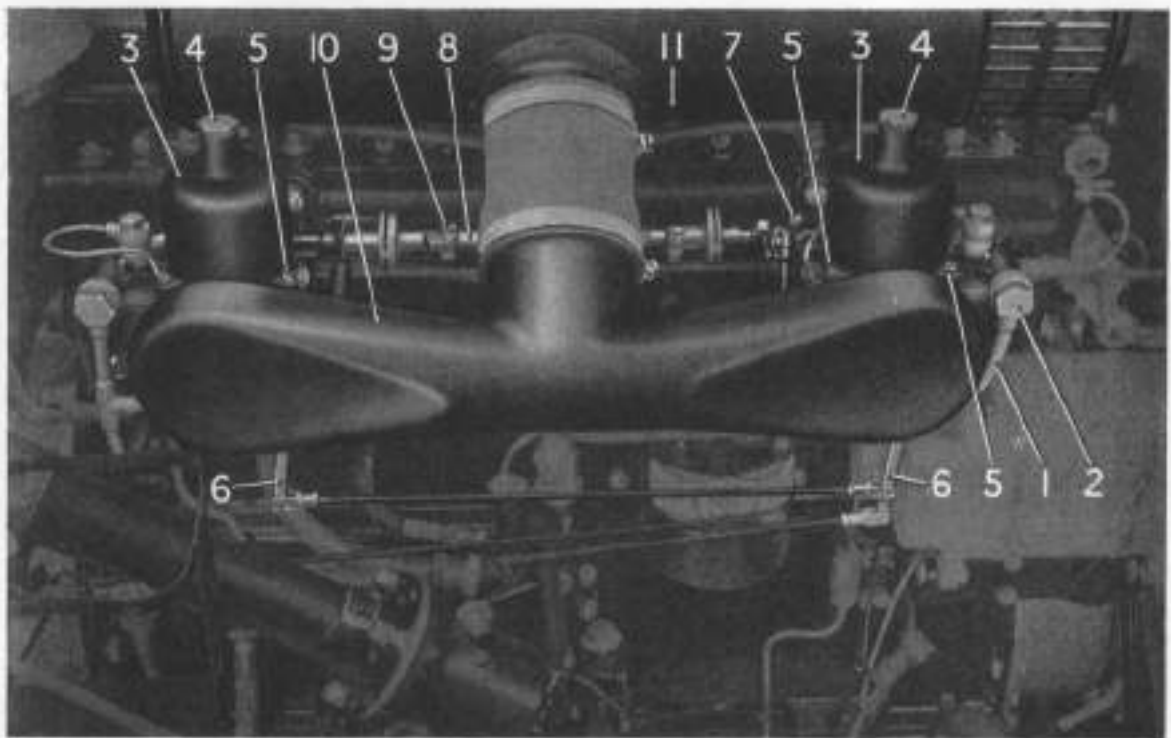
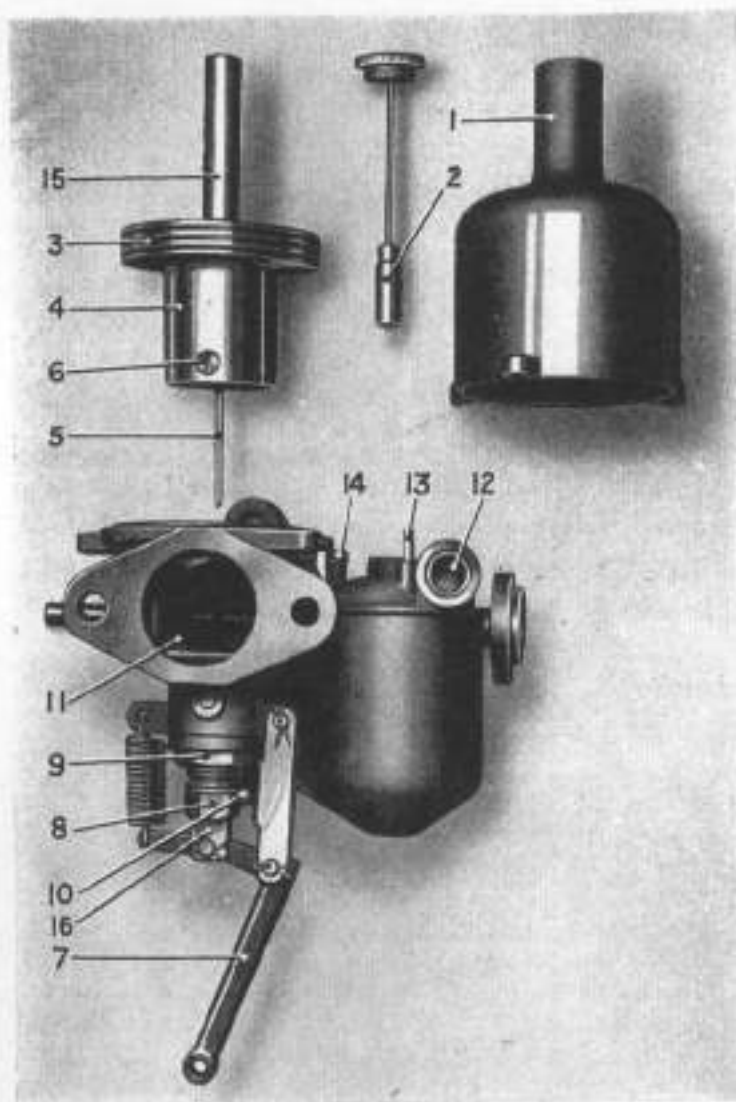

Fig. 13. CARBURETTERS IN POSITION ON ENGINE
Fig. 14.—CARBURETTER—EXPLODED VIEW.
In addition, a small gauze strainer, shown at (12, Fig. 14), is arranged on each carburetter. These should be removed and cleaned every 20,000 miles, as directed on page 33.
Removal is effected by unscrewing the two union nuts (2, Fig. 13).
Two carburetters of the S.U. controllable jet type are fitted as shown in Figs. 13 and 14, one being shown in section to illustrate the principal parts.
The automatic air valve is of the conventional S.U. pattern, and includes a hydraulic suction piston damper to delay the rise of the air valve piston during acceleration and when starting the engine from cold. The damper consists of a small cylindrical brass plunger (2, Fig. 14), attached by a thin steel rod to the oil cap nut (4, Fig. 13). Inside the plunger is a one-way ball valve which seats in an upward direction. The plunger is a free fit in the hollow guide rod of the automatic air valve piston, the chamber being filled with a thin oil. The action of the device is as follows:—
Every month, as directed on page 30, the oil reservoir cap nut (4) (Fig. 13), should be unscrewed and the plunger withdrawn, *great care being taken to avoid damage to the plunger rod by bending*; the reservoir should be topped up, if required, with the recommended oil, so as to maintain the level of the oil to the top of the guide rod only. The
If it is suspected that the automatic air valve is not working correctly, the air intake (10, Fig. 13), should be removed, and a check made by lifting the piston with the fingers, when it should be noted that the piston falls quite freely on to its seat when released.
If any sticking or sluggishness is apparent, it will be necessary to dismantle the air valve assembly; first remove the hydraulic piston damper, next remove the three screws (5, Fig. 13), and lift off the cylinder (3). The piston valve can be then lifted out, *the utmost*
care being taken not to bend or damage its depending needle valve (5, Fig. 14), or to bruise the valve in any way. The valve, cylinder and guide, should be carefully wiped with a piece of clean cloth dipped in petrol, and the piston rod **ONLY** lubricated with a few drops of thin oil.
The suction disc (3, Fig. 14), does not touch the walls of the cylinder, there being a small clearance, and it is centralised solely by the piston rod working in the guide. Therefore, any sluggishness in movement is probably due to dirt in the guide, or on the cylinder walls.
The needle valve is secured in position by means of a grub screw, (6, Fig. 14), and if it should be necessary to remove this, as, for instance, when replacing an accidentally damaged needle, it must be particularly noticed that the location of the valve is determined by a shoulder. The valve should be pushed into the piston until this shoulder is just flush with the lower face and the grub screw tightened.
The quantity of mixture for slow running is determined by means of an adjustable screw stop on the front carburetter (7, Fig. 13), which limits the closing movement of both throttles. This is so adjusted that the engine will idle slowly but reliably when the hand throttle lever on the steering wheel is set right to the bottom of its range and the accelerator pedal released. The stop on the rear carburetter is normally inoperative, and is only used to help initial adjustment.
Re-adjustment of the jets, and of the control shaft between the carburetters, should not normally be required. If, however, the whole adjustment has been disturbed, first adjust the throttles so that both carburetters function equally at "fast idle". An indication that both pistons have risen can be felt by depressing the top of the piston guide rod (15, Fig. 14) by means of a small rod inserted through the top of the cylinder (3, Fig. 13), after removal of the oil cap nut and hydraulic piston damper (4, Fig. 13). The jets should then be adjusted subsequent to this operation, as described below.
The mixture control lever on the steering wheel operates to raise or lower the actual fuel orifice or jet, through the medium of the levers (6, Fig. 13.). Raising the jet causes the taper needle to sink further into the orifice, so weakening the mixture. Conversely, lowering the jet enriches the mixture. This control is only intended to provide a means of strengthening the mixture for starting from cold, for normal running the jets must be in their highest position, the back of both the jaws (16, Fig. 14), abutting against the adjustable stops (8, Fig. 14), simultaneously.
With the engine warm, the control rods should be disconnected from the ends of the levers (6, Fig. 13), and the latter pushed up until the jaws (16, Fig. 14), are against the stops (8, Fig. 14). Then, with the engine running, the stops should be manipulated until the engine runs regularly. Any sign of "hunting" is due to the mixture being too rich, and one or both of the stops must be screwed farther in and the lever pushed up so that the jaw is against it.
If it is required to dismantle the float chambers, it will be most convenient to remove them bodily—after removing the fuel pipes—by unscrewing the hexagon plugs (10, Fig. 14), which secure each to its carburetter body.
The large hexagon (9, Fig. 14), should not be disturbed, as the refitting of this requires special tools to ensure that the jet is accurately centralised relative to the taper needle valve.